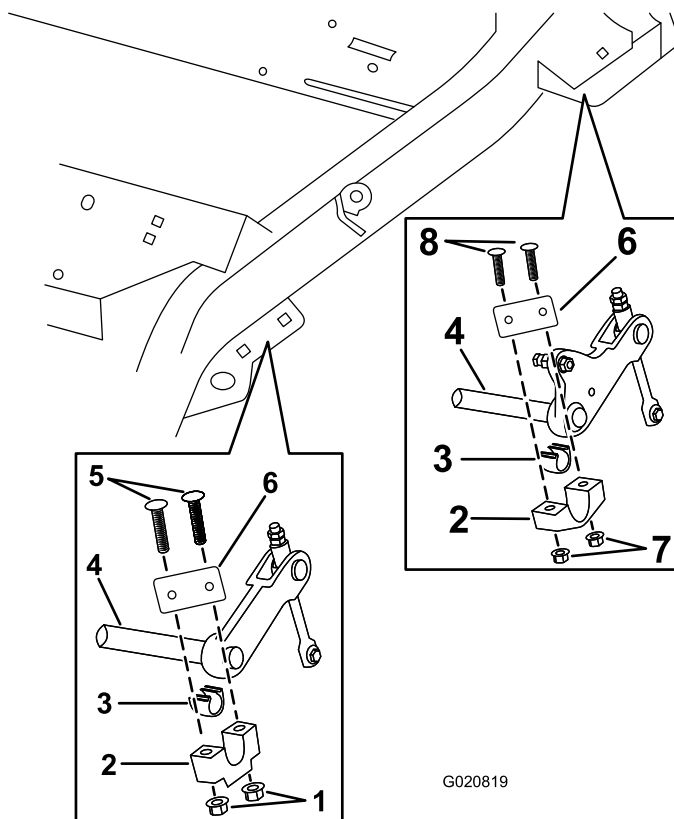

Figure 2
3. Align a deck lift spacer with the holes on the front right of the frame (Figure 2)
4. Install the deck lift spacer by using the carriage bolts (1/2 x 2-1/2 inches), the bearing liner, the cross shaft support bearing, and the flange nuts (3/8 inch) as shown in Figure 2.
7. Align a deck lift spacer with the holes on the back right of the frame (Figure 2).
8. Install the deck lift spacer by using the carriage bolts (3/8 x 1-3/4 inches), the bearing liner, the cross shaft support bearing, and the locknuts (1/2 inch) as shown in Figure 2.
Important: Make sure the spring washers are installed correctly as shown in Figure 2.